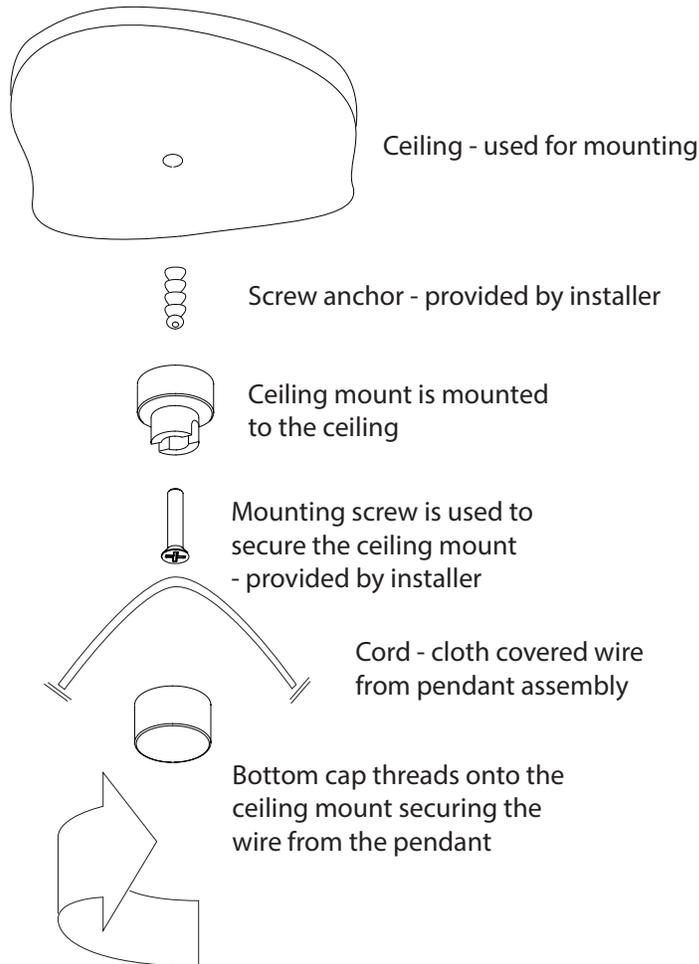

Figure 3
9. (Optional) Screw swag hook securely into ceiling or support beam. Pull cord through to desired slack and length. *See Figure 3 on page 4*.